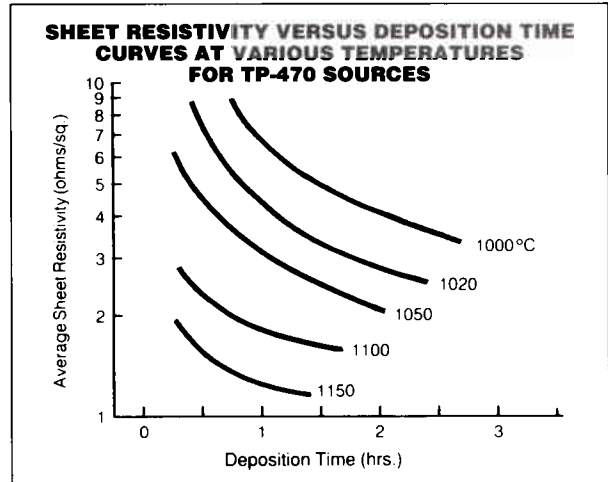
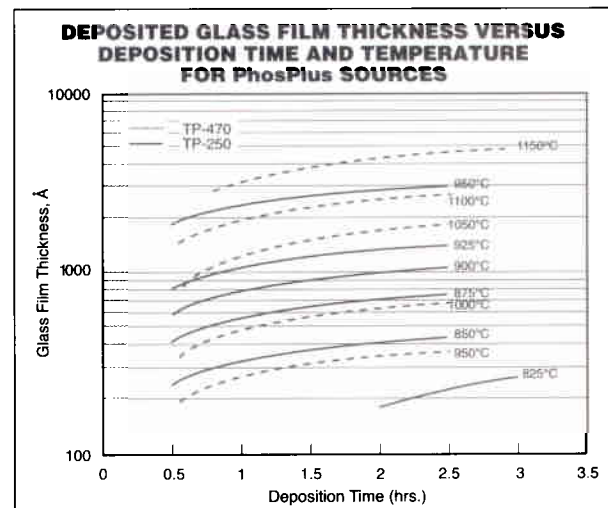

Figure 5
Figure 7
**Single Crystal Silicon:** Typical sheet resistivity versus deposition time curves for the two PhosPlus sources are plotted in Figures 5 and 6. The curves are different for each source because the sheet resistivity of the silicon wafer for a given deposition cycle depends somewhat upon the thickness of the deposited glassy film. The thicker the glassy film, the lower the sheet resistivity. Figure 7 shows how the deposited film thickness varies with the type of source being used.